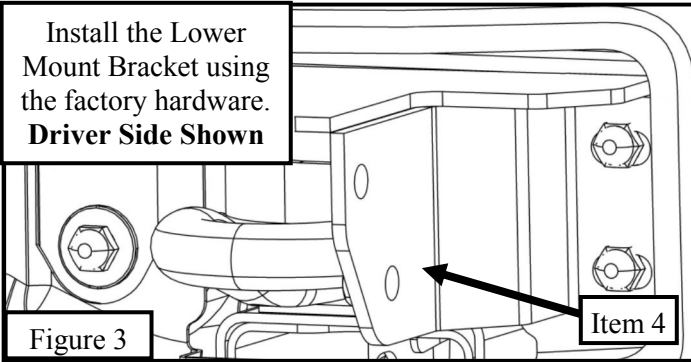

Figure 3
- Starting on either side. Locate (1) Lower Mount Bracket (Item 4/5) and loosely install onto the factory bolts under the previously removed plastic covers using (4) M12 flat washers, (4) M12 split lock washers, and (4) M12 hex nuts. See Figures 3 and 4.